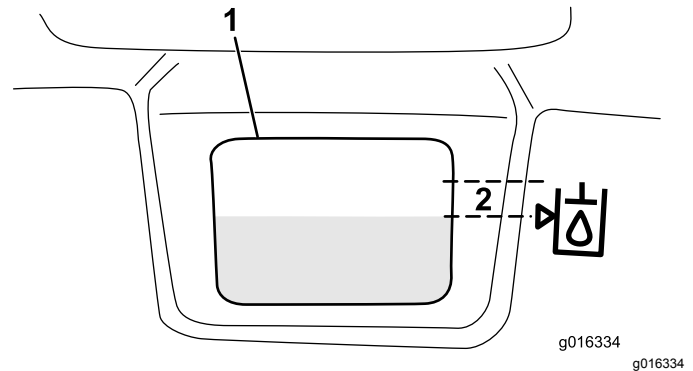

Figure 33
3. Slowly fill the reservoir with the appropriate hydraulic fluid until the level is at or within 0.25 inch (6 mm) of the arrow in the symbol next to the white window in the front of the reservoir (Figure 33). Do not overfill.